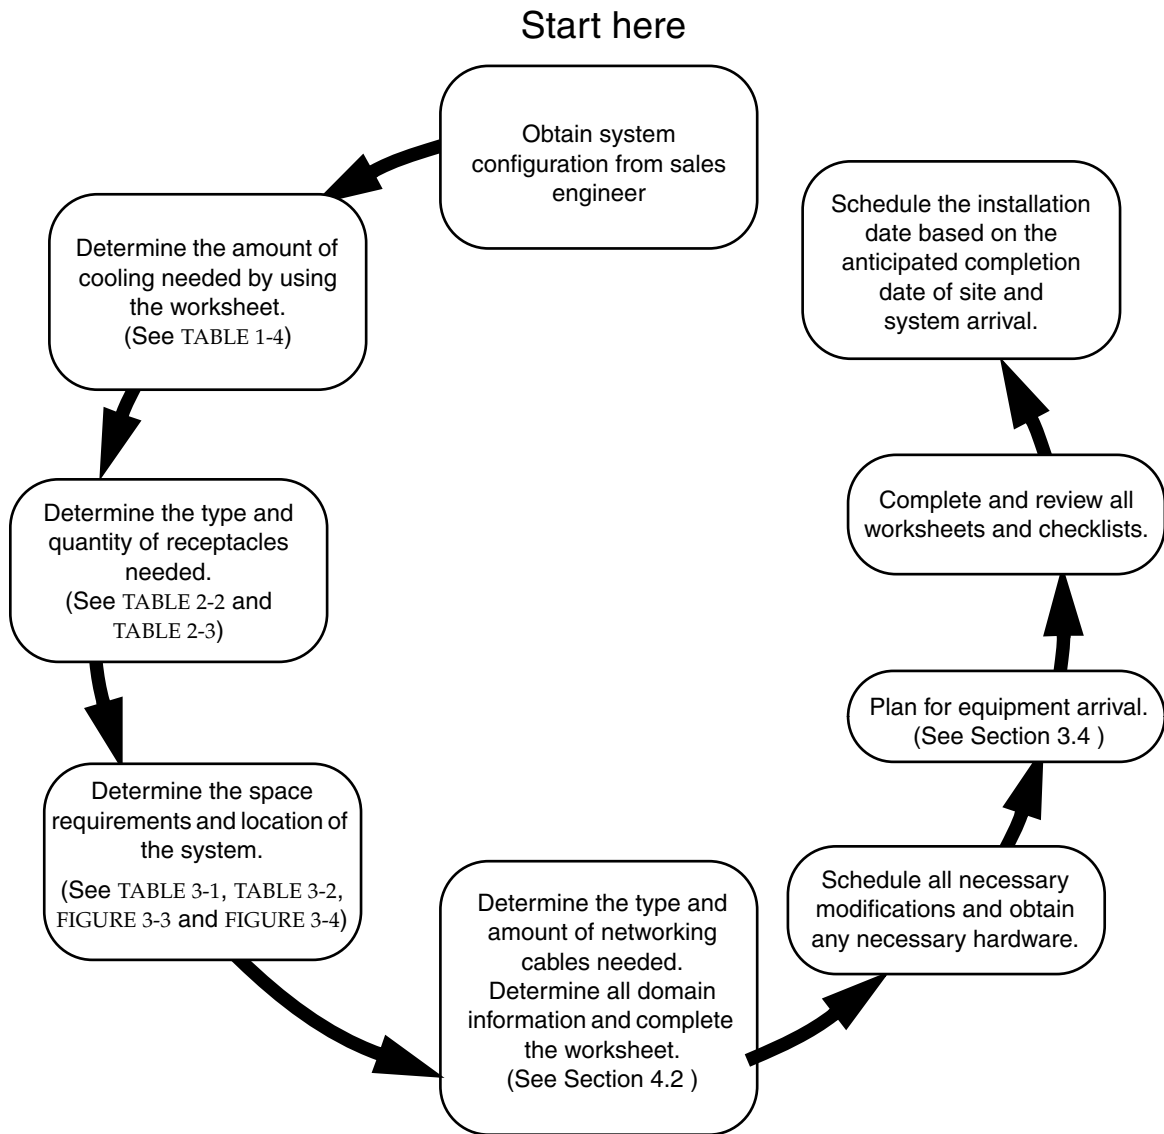

FIGURE P-1 Site Preparation Process
- FIGURE P-1 Site Preparation Process x
Due to the amount of time required to plan and properly prepare a site for installation of a Sun Enterprise 10000 system, you must fulfill all of the requirements outlined in this manual before your equipment arrives. Your Sun Microsystems™ account manager is available to help. Use FIGURE P-1 as a guide to plan for a system installation.